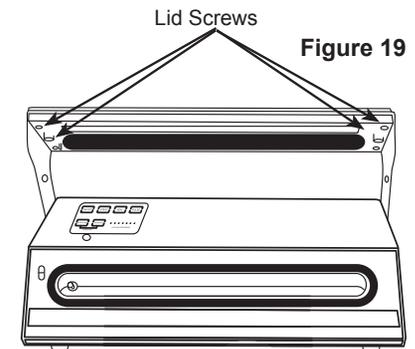

Figure 19
5. Using a Phillips-head screwdriver, remove the 4 **Lid Screws** in the **Plastic Lid Base** (Figure 19).